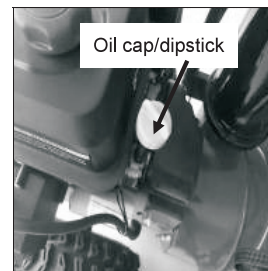

Fig. 26A
9.5.3 Insert the oil cap/dipstick into the oil filler neck as shown, but do not screw it in, then remove it to check the oil level. (Fig. 26A/26C)